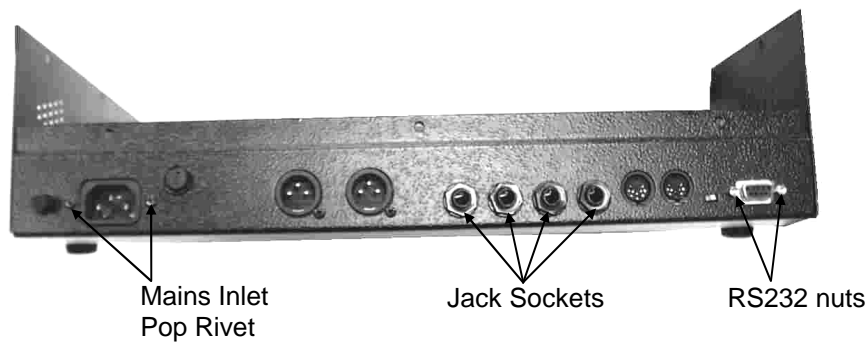

fig.5
- 1) Remove the 4 plastic jack sockets from the rear of the console (see fig.5)
- 2) Remove the 2 RS232 nuts (see fig.5)